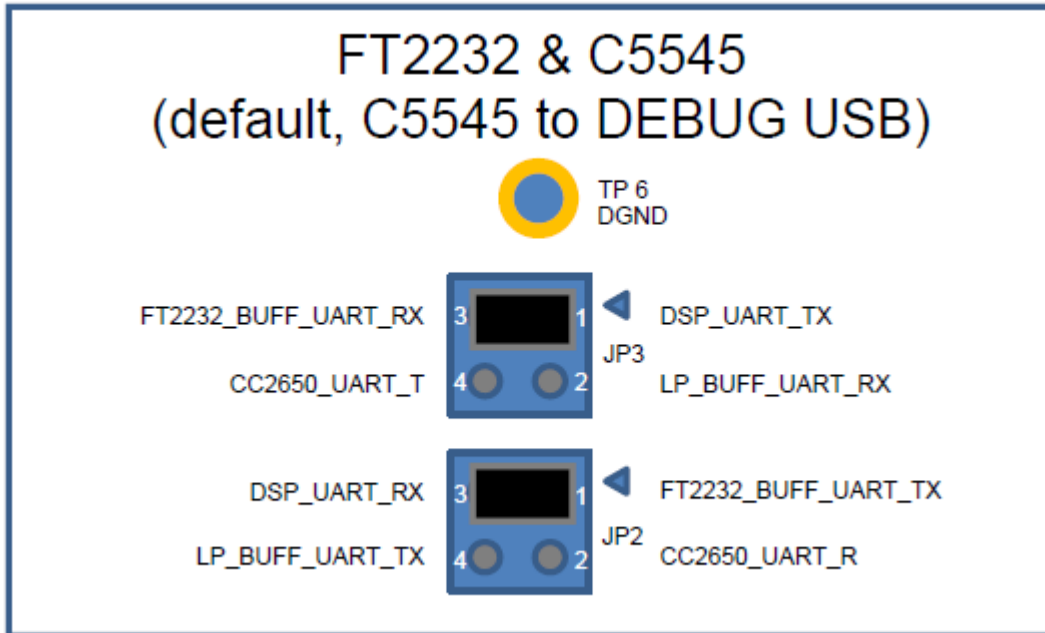

Figure 2. C5545 JP2 JP3 for UART Boot
2. If using the C5535 eZdsp, ensure pin 2 of SW3 is in the ON position. If using the C5545 BoosterPack, ensure jumpers on JP2 and JP3 are each between pins 1 and 3, see Figure 2.